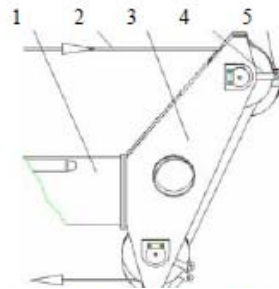
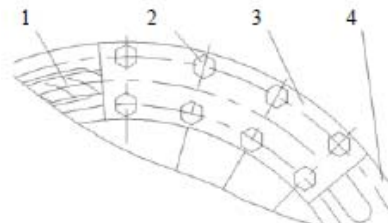

Fig. 8-8 Sequence for free end of rope getting through cathead nylon shoe
Fig. 8-9 Fixing for the free end of rope
- ② According to the direction of arrow shown in Fig.8-8, insert the free end of steel wire rope (not pressed or equipped with rope clip), from the top inner crotch of cathead bracket, along the main winch pulley groove and across the other pulley, and finally into the back pulley. When getting it through the pulley groove, pay attention to avoiding the limit pins in the vicinity of steel wire rope to ensure that the steel wire rope always fits with the pulley groove during the operation.
- ③ Relax the compression spring of main winch rope to ensure that the rope can pass through the gap between the rope holder and drum.
- ④ Continue pulling the rope along the pulley groove; until the free end gets through the wall hole from the inside of mounting flange of drum on the pressure plate (see Fig. 8-9). Install the pressure plate 3 and bolt 2, and tighten two bolts at the same central angle clockwise/anticlockwise. Tighten it in two steps, with the torques of 160 and 260 N.m respectively. Apply 262 Loctite sealant at the thread.
- ⑤ Adjust the tension of compression spring of main winch rope to keep the pressing force on the rope body within a reasonable range.